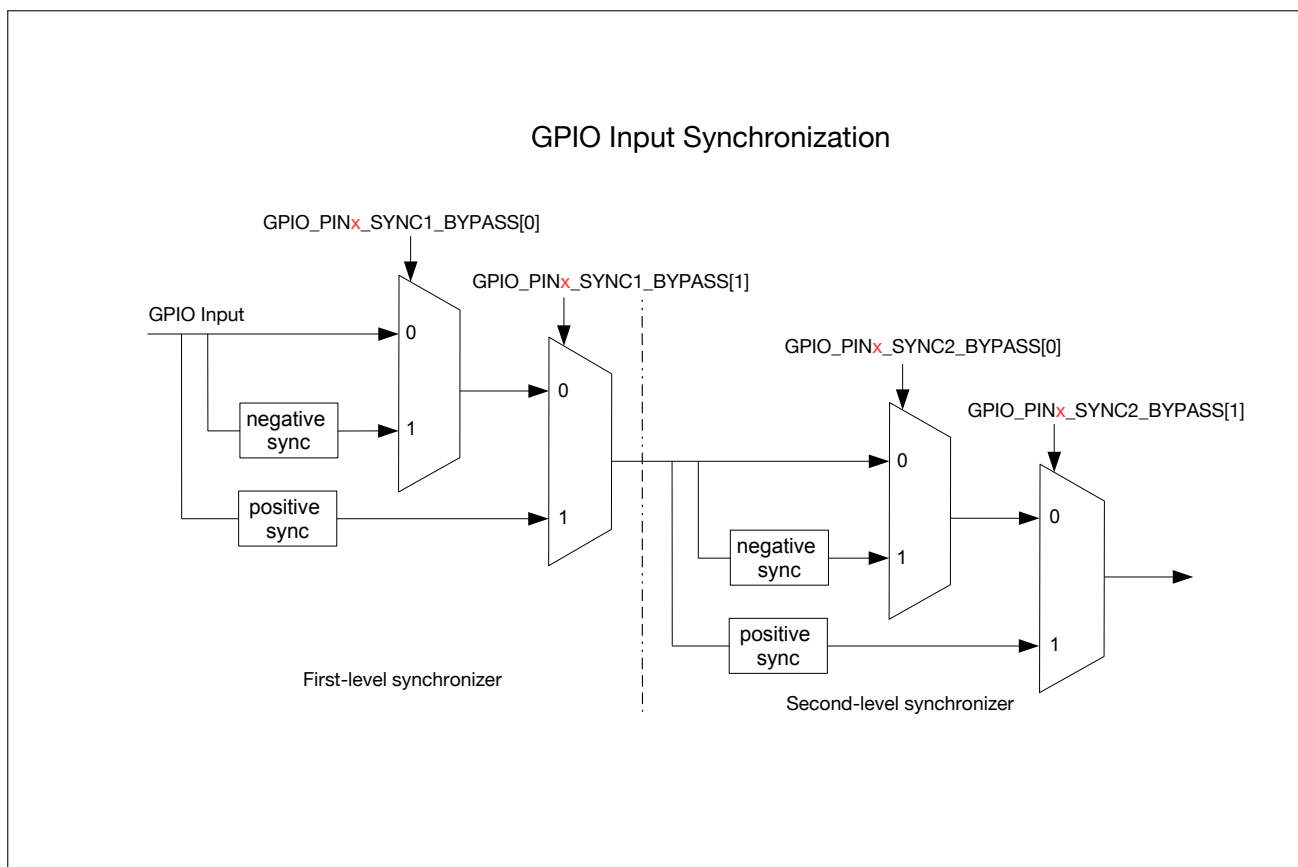

Figure 5.4-1. GPIO Input Synchronized on APB Clock Rising Edge or on Falling Edge
Figure 5.4-1 shows the functionality of GPIO SYNC. In the figure, negative sync and positive sync mean GPIO input is synchronized on APB clock falling edge and on APB clock rising edge, respectively.
- Set `GPIO_PINx_SYNC1_BYPASS` to enable input signal synchronized on rising edge or on falling edge in the first-level synchronizer, see Figure 5.4-1.
- Set `GPIO_PINx_SYNC2_BYPASS` to enable input signal synchronized on rising edge or on falling edge in the second-level synchronizer, see Figure 5.4-1.